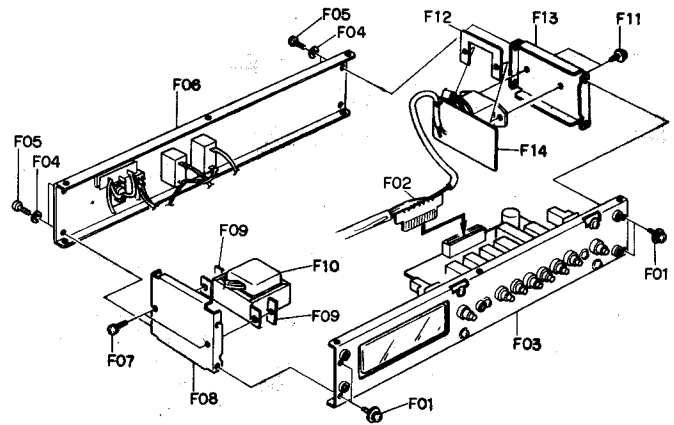

Fig. 7.2
Refer to Fig. 7.2. Remove Front Panel and Case Covers referring to item 7.1. Remove F01 and F02, then F03 (Front Mechanism Ass'y). Remove F04 and F05, then F06 (Rear Panel Ass'y). Remove F07, F08 (Side Plate L) and F09, then F10 (Power Transformer). Remove F11, F12 and F13 (Side Plate R), then F14 (Relay P.C.B. Ass'y).